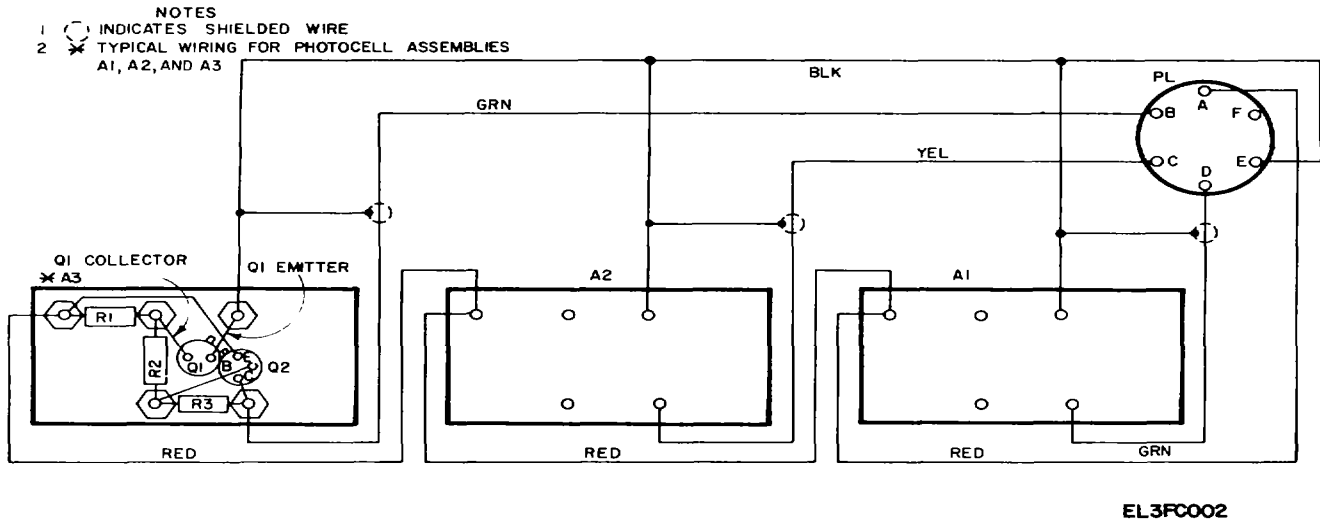

Figure 2-2. Bridge Assembly A10, schematic diagram.
d. *Bridge Assembly A10* (fig 2-2) Bridge assembly